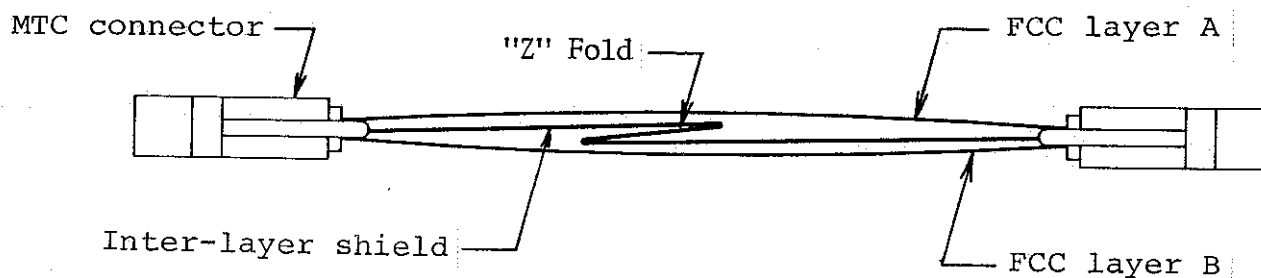

Figure 18. Inter-Layer Shield Folded to Match Length of FCC
7. Fold the inter-layer shield into a "Z" fold as shown in Figure 18, so that its length matches the FCC length.